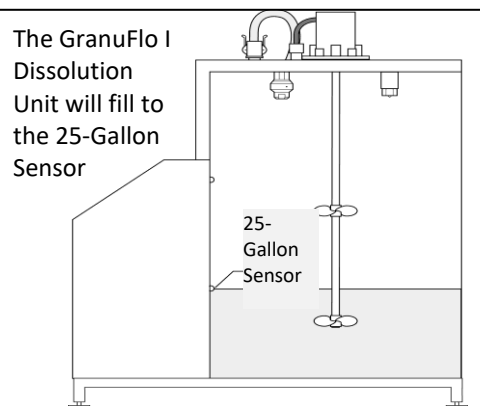

Figure 20
3. Once the 25-Gallon Sensor is reached, the control panel will automatically step to the first RECIRCULATE Operation (figure 20). With your safety glasses on, lift the Access lid and check for correct spray ball operation. See figure 4, page 13, for the illustration of correct or incorrect spray ball operation.